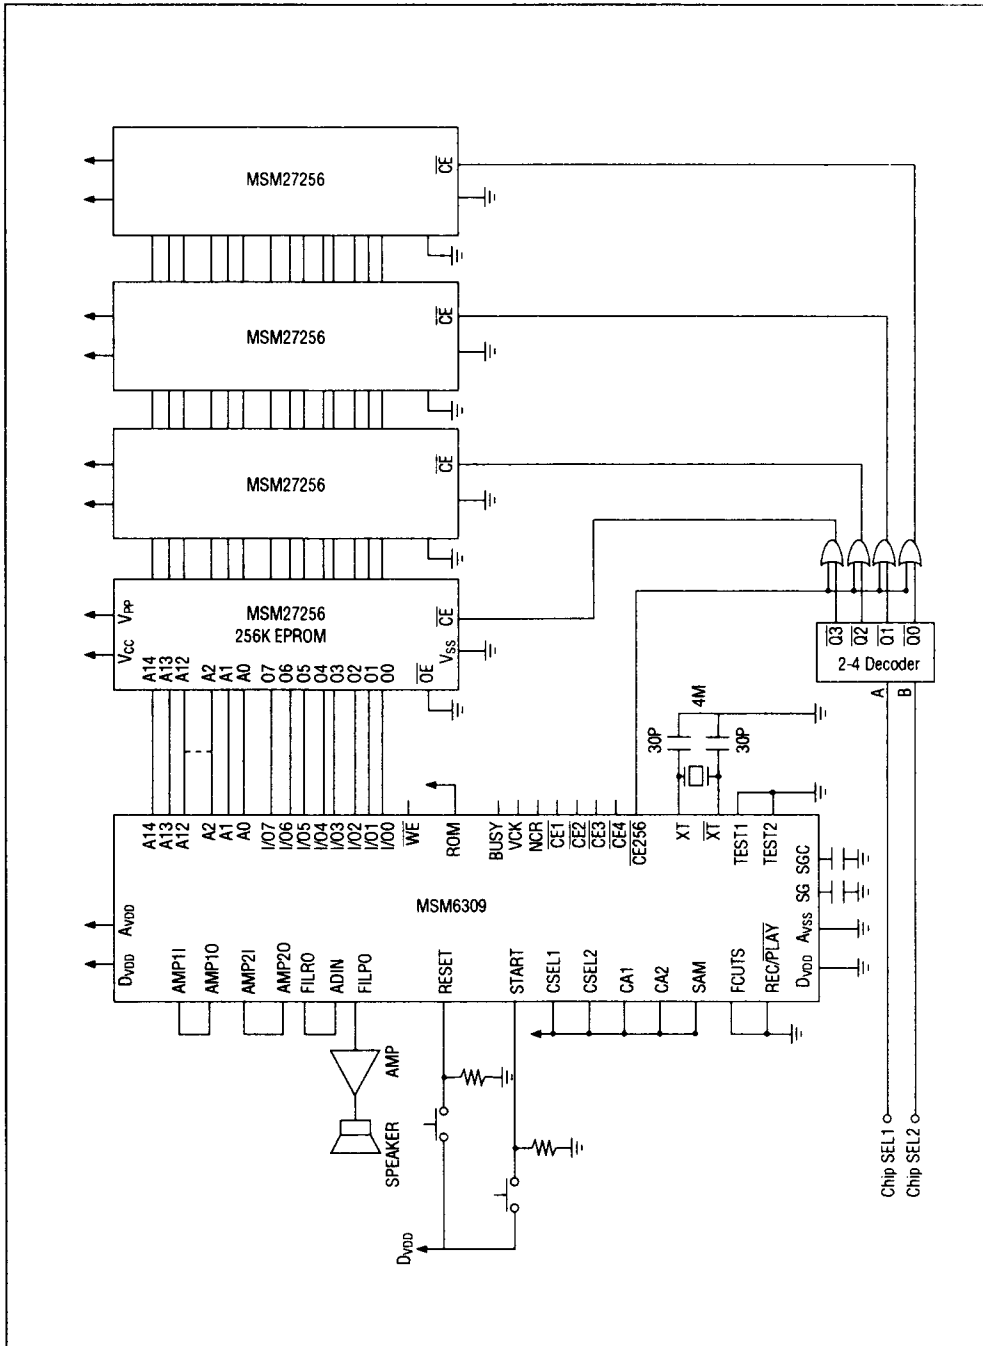

Figure 14 Example of Application Circuit with 256K EPROM
- Figure 14 shows an example of the application circuit when MSM6309 and four 256K EPROMs are used.